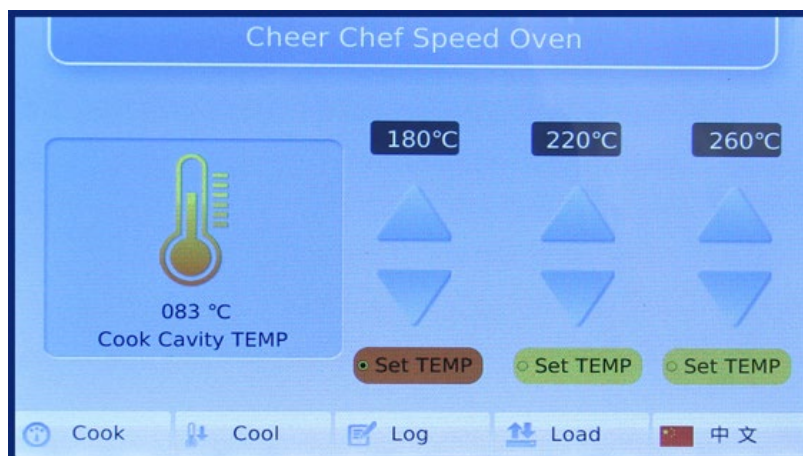

Figure 1
4.3.1 Access menu groups/Preheat: In Figure 1, for example, select “Set TEMP 1”, touch “Cook”, menu groups screen shown in Fig 2.
PREHEAT: Once press “Cook” key on the initial interface shown in Fig1 to enter the COOK MODE(menu groups screen), the oven will preheat to the set temperature (desired temperature), when it reach the desired temperature the oven will keep it until it return back to the initial interface shown in Fig1.